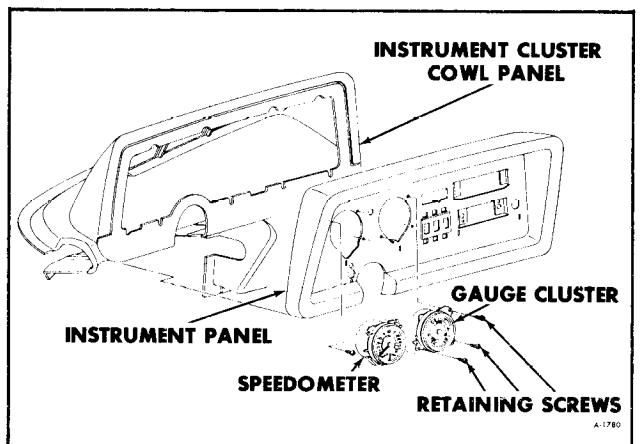
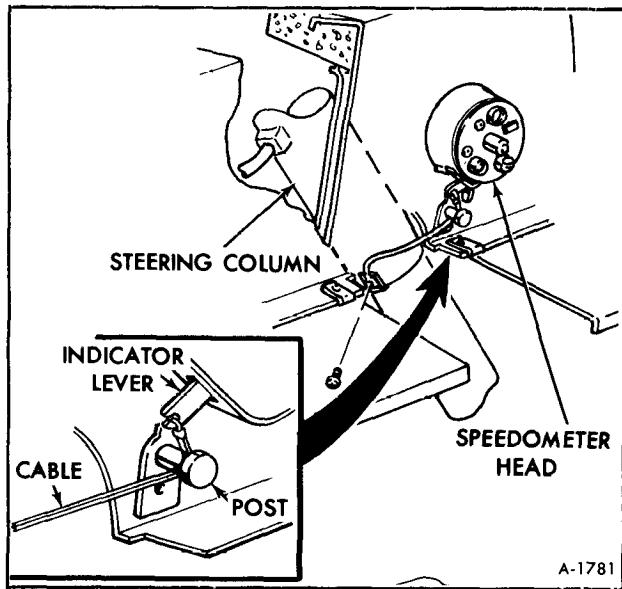

Figure 3-Speedometer and Gauge Cluster
Figure 4—Gear Indicator Cable Connection
4. Remove the (3) speedometer retaining screws (See figure 3) and ground wire.
6. Disconnect (4) wire electrical connector from the back of the speedometer head.
9. When installing new or repaired speedometer head, the gear indicator cable should be routed around the metal post on the back side of the instrument panel. (See figure 4)
GAUGE CLUSTER REPLACEMENT (FIGURE 3)
3. Remove the (3) gauge retaining screws and pull gauge out as far as possible. (See figure 3)